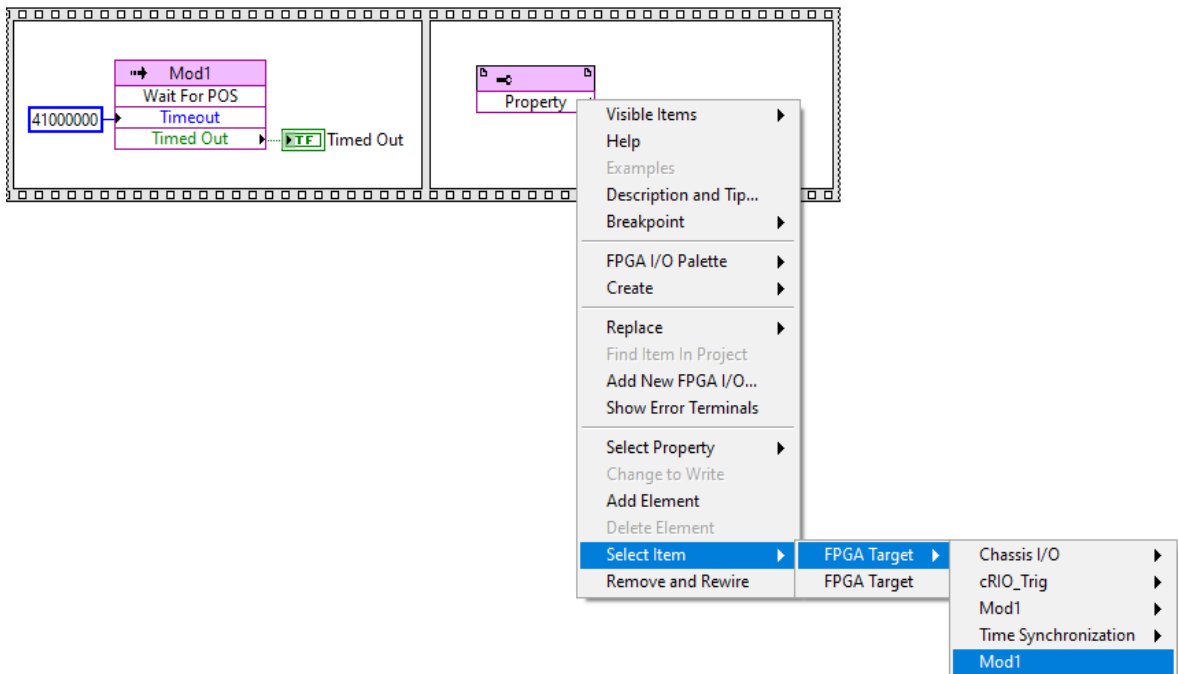

Fig. 8: Quick Start – Create property node
- 16. Place a property node from the functions palette (*FPGA I/O* → *I/O Property*) into a subsequent Frame (Fig. 8). Afterwards, select the item *Mod1* (exact naming depends on the cRIO slot used) as shown in figure 8.